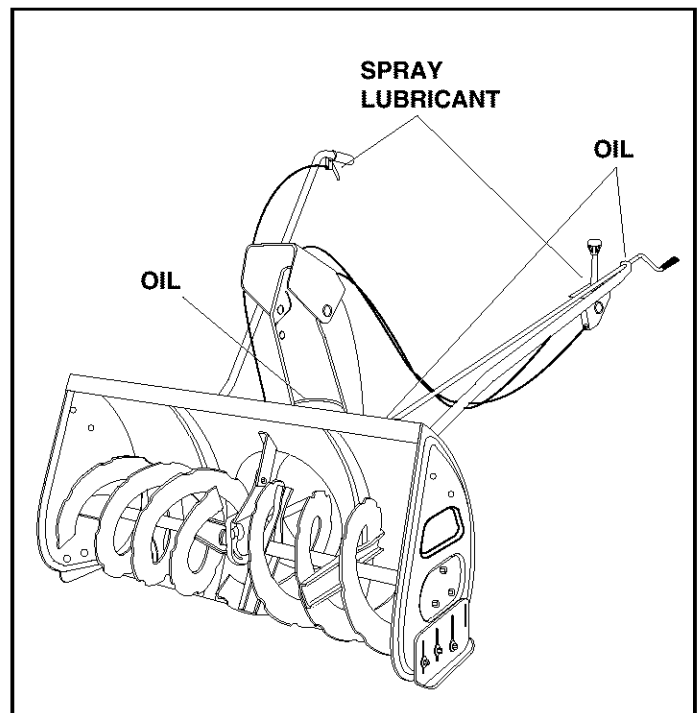

FIGURE 21
- Apply a good grade of spray lubricant to the trigger assembly on the lift handle and the chute tilt control assembly and cables on the crank support tube. See figure 21.
- Apply a small amount of oil between the inside of the discharge chute and the top of the discharge opening on the auger housing as needed to maintain easy rotation of the discharge chute. See figure 21.